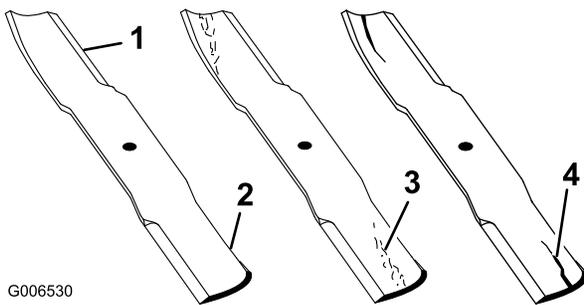

Figure 76
1. Inspect the cutting edges (Figure 76). If the edges are not sharp or have nicks, remove and sharpen the blades. Refer to Sharpening the Blades.
2. Inspect the blades, especially the curved area. If you notice any cracks, wear, or a slot forming in this area immediately install a new blades (Figure 76).